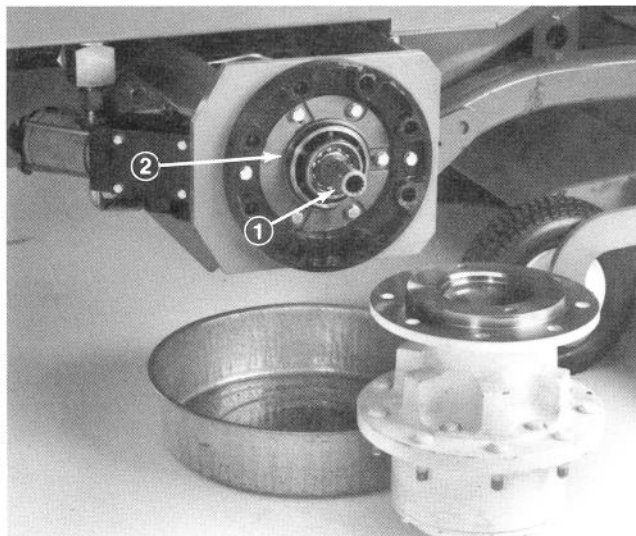

Figure 3
5. Remove planetary wheel drive (Fig. 3).